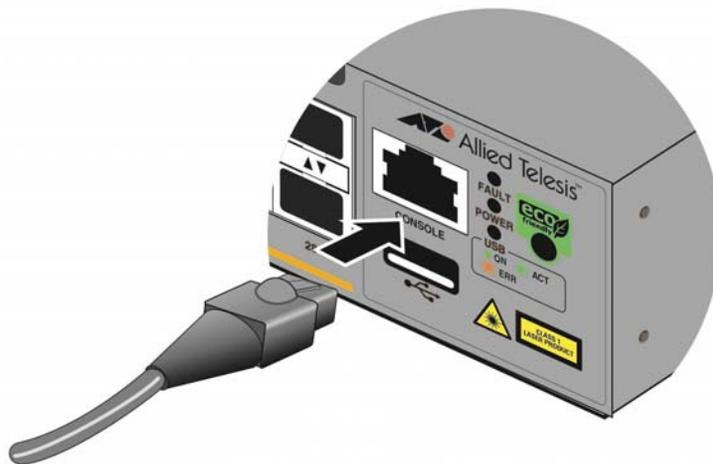

Figure 41. Connecting the Management Cable to the Console RS-232 Port
1. Connect the RJ-45 end of the management card included with the switch to the Console RS-232 port on the management panel. Refer to Figure 41.